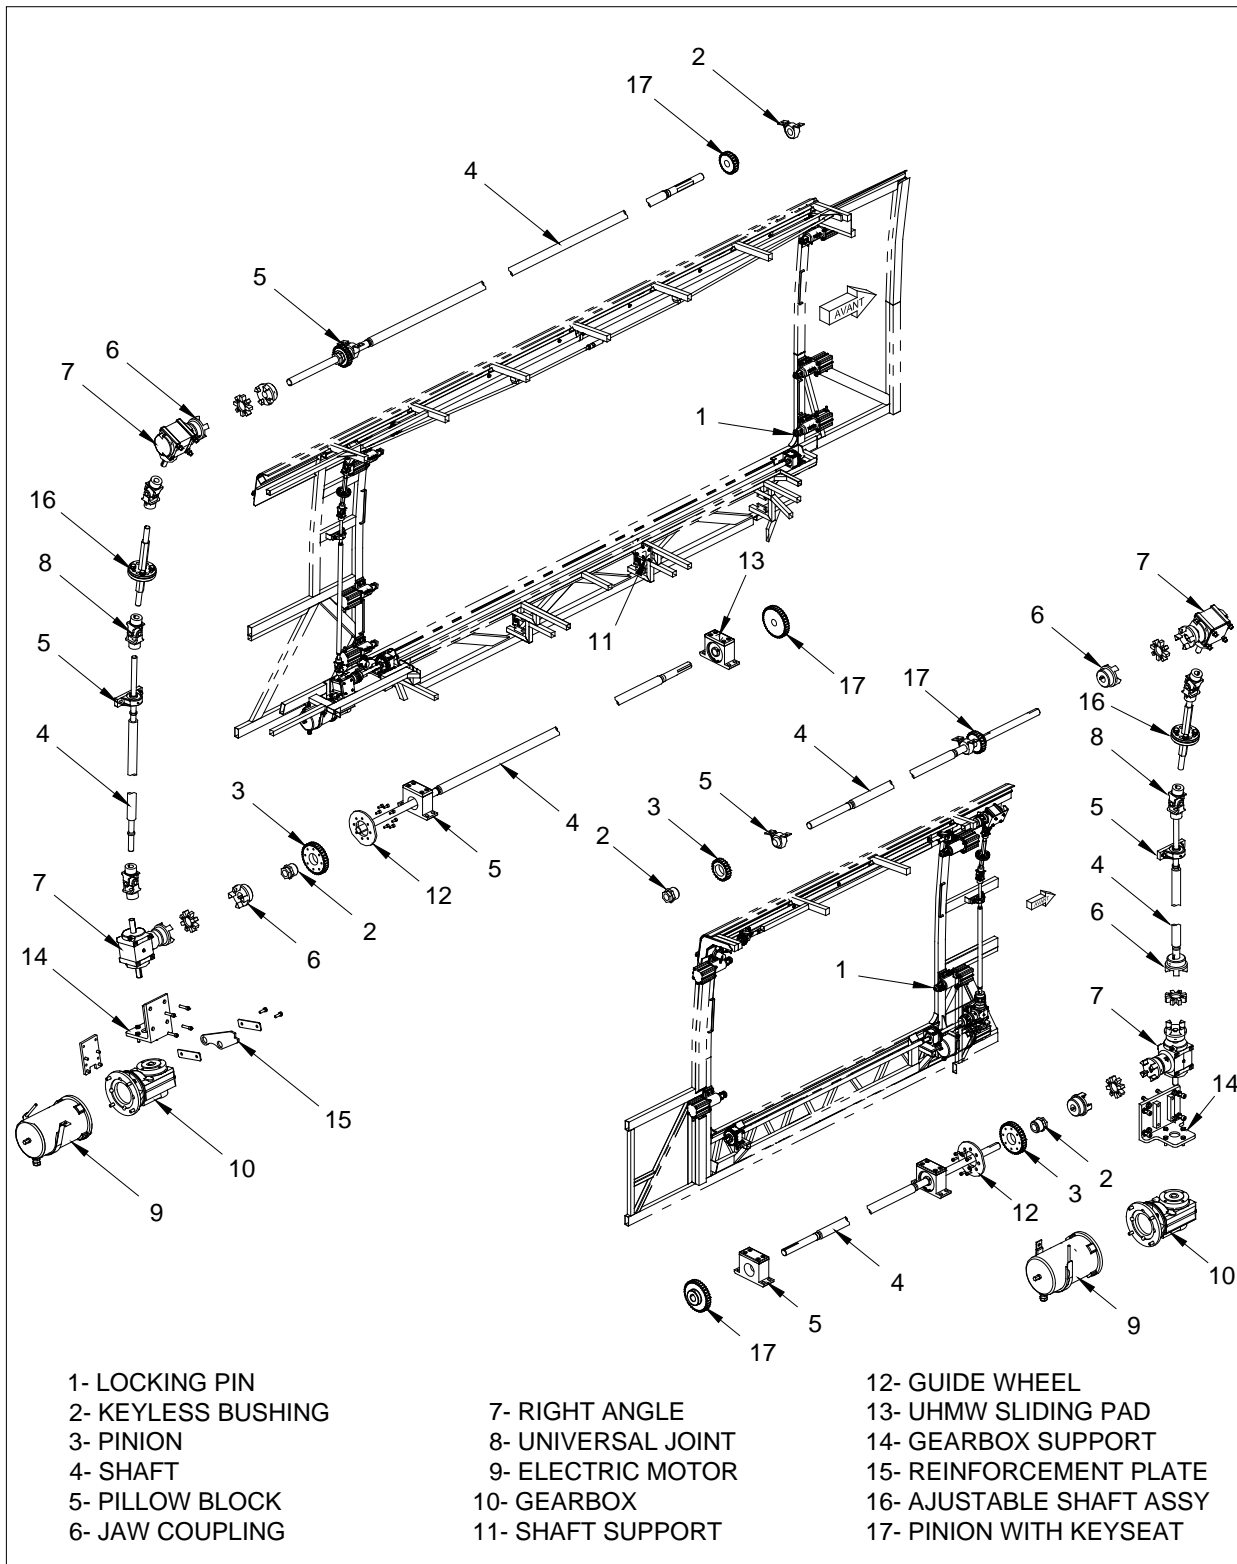
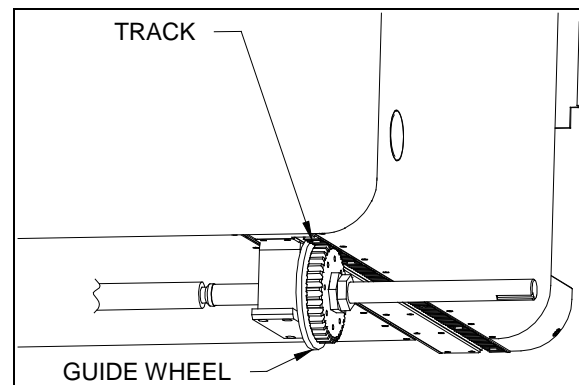

FIGURE 1 : SLIDE-OUT MECHANICAL COMPONENTS
FIGURE 9 : GUIDE WHEEL TRACK
8. Disengage both upper and lower shaft jaw couplings (figure 1 item 6).
3. Carefully put the slide-out on its UHMW sliding pads and the racks on their pinions (figure 1 item 3 and 13). Slide the free pinions to center them on their racks. Also, make sure that the guide wheel is in its track (figure 9 and figure 1 item 12).
7. Re-engage respectively the upper and lower shaft jaw couplings (figure 1 item 6). If necessary, realign the right angle drive (see section 8).